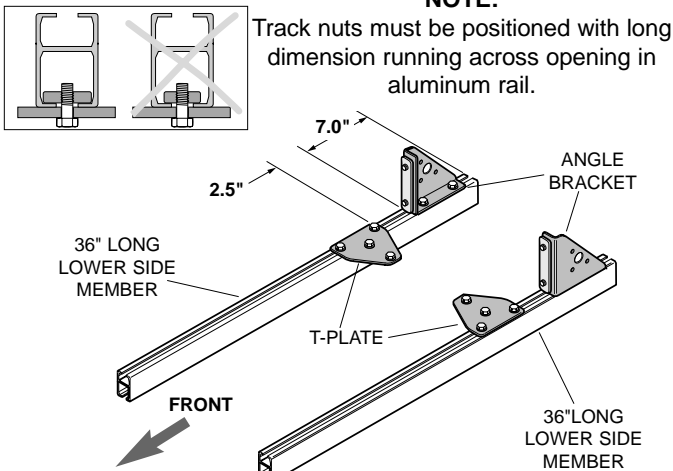

Figure 2.
2. Locate two 36" long lower side members, two angle brackets and two T-plates. Place aluminum side members on floor with large slot down. Affix angle brackets and T-plates to side members by sliding track nuts into aluminum rails. Position as shown in Figure 2, and tighten track nuts to secure.